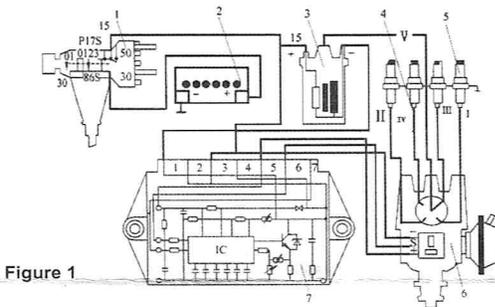

Figure 1
4. Figure 1 is an illustration for a independent cycling ignition 4-cylinder ignition system.